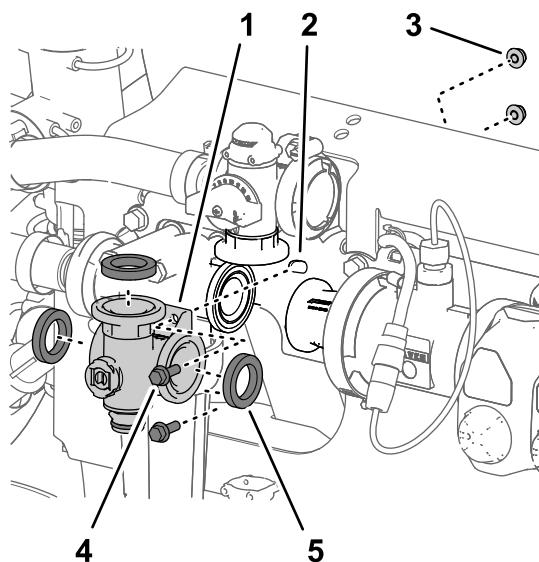

Figure 124
- 3. Remove the 2 flange-head bolts (1/4 x 3/4 inch) and 2 flange locknuts (1/4 inch) that secure the agitation-valve manifold to the valve support (Figure 124).
- 4. Remove the agitation-valve manifold and gaskets from the machine (Figure 124).